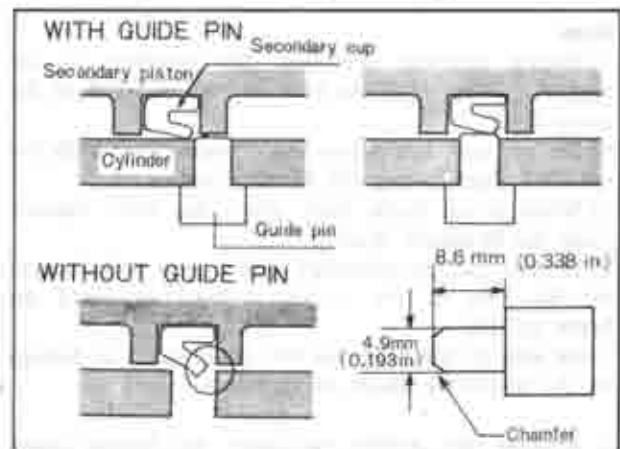

Fig. 11-11 Piston guide pin
4. Fit the guide pin, as shown in Fig. 11-11, into the stop bolt hole and insert the piston assembly and return spring into the cylinder. With a screwdriver push the piston as far as it will go, remove the guide pin, and install the stop bolt and washer.